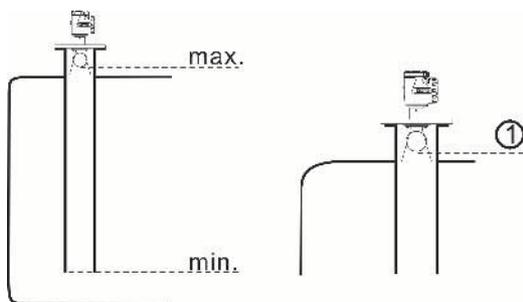

Fig.18
- the stilling or by-pass pipe must reach the minimum level (fig.18)